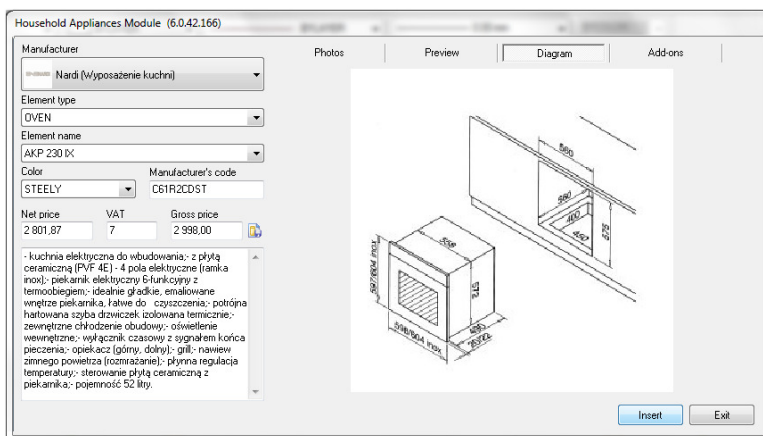
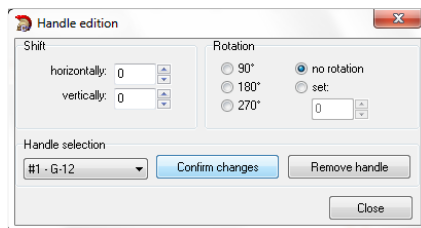

Fig. 153 – checking the assembly scheme for cabinets dimensions
Fig. 164 - Handle edition dialog box
- in this module select the manufacturer's database and then the desired object to insert, and press **Insert** (Fig. 153);
- you can check dimensions and additional elements for each model (Fig. 153);
- Press the **Handles** button in the window presented above (Fig. 153) and the next dialog box will appear (Fig. 164 on the next page);